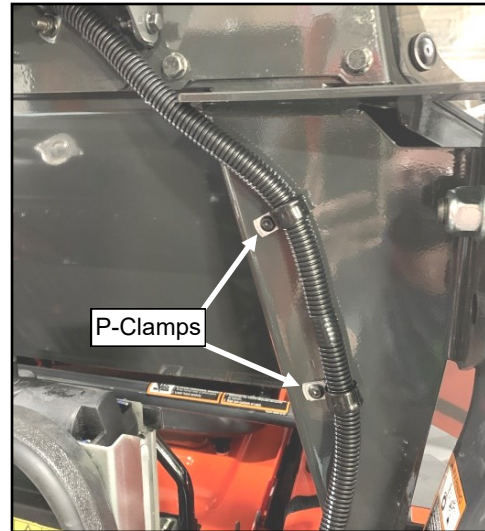

Fig. 7.5 (P-Clamp Wire Harness to ROPS Bracket)
7.5 See fig. 7.5. Cut the cable ties securing the bundled A/C wiring harness and attach the harness to the lower ROPS brackets with p-clamps as shown.